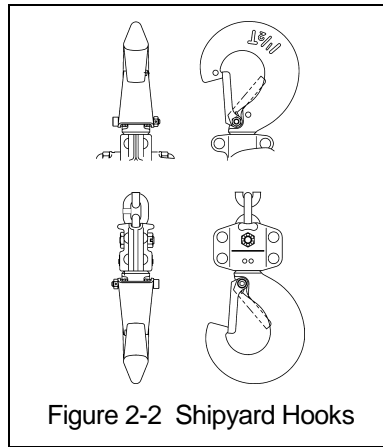

Figure 2-2 Shipyard Hooks
- The SYH is a special hook with a heavier design for use in the metal and ship building industries. They are designed to aid in the effective positioning of fixtures and steel plate before welding. Hook latches are included with all SYH. Refer to Figure 2-2.